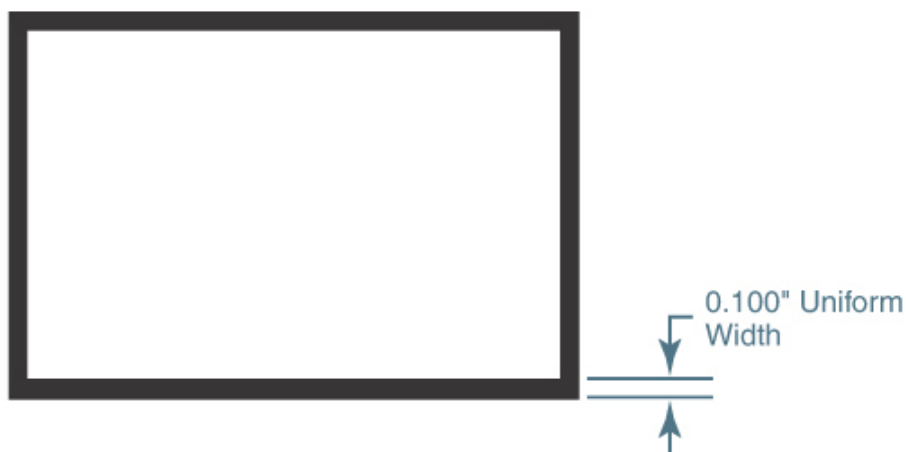

Figure 9-27
After you select the **Width** option, enter the line width and press **<Enter>**. After entering the width, you can create a rectangle using any of the techniques explained previously. Figure 9-27 shows a 3.000" × 2.000" rectangle drawn with a 0.100" uniform line width.
- 4 Draw a 3.000" × 2.000" rectangle with a 0.100" uniform width similar to the rectangle shown in Figure 9-27 using the **RECTANG** command and the **Width** option.